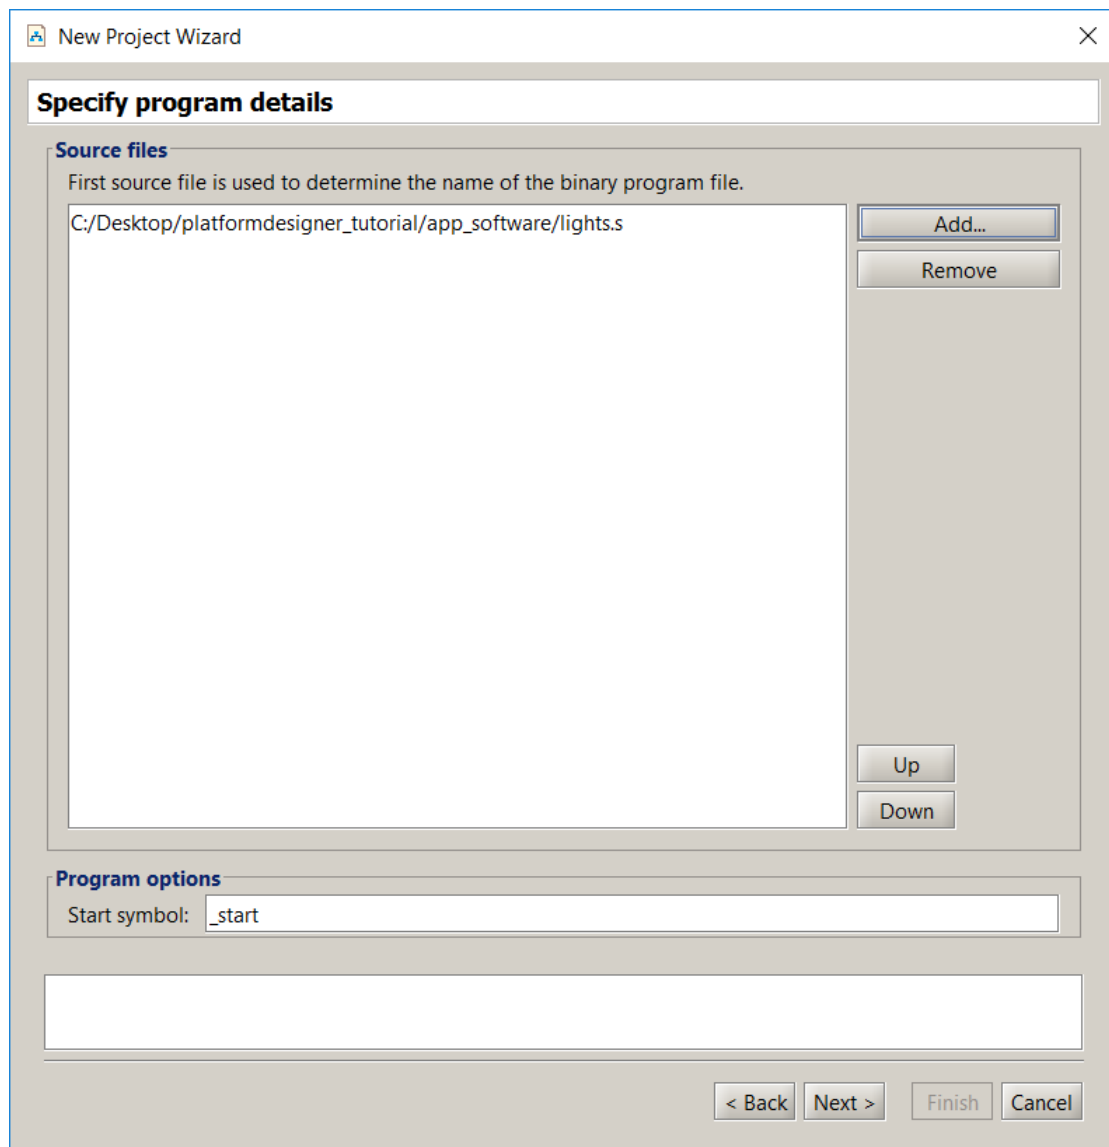

Figure 29. Specify the application program to use.
5. If you wish to use a Nios II assembly-language application program, select **Assembly Program** as the program type from the drop-down menu. If you wish to use a C-language program, select **C Program**. Click **Next**, leading to Figure 29.
6. Click **Add...** to display a file selection window and choose the *lights.s* file, or *lights.c* for a C program, and click **Select**. For this tutorial, we have chosen to use the assembly program. We placed the application-software files in the directory *platformdesigner_tutorial\app_software*. Upon returning to the window in Figure 29, click **Next**.